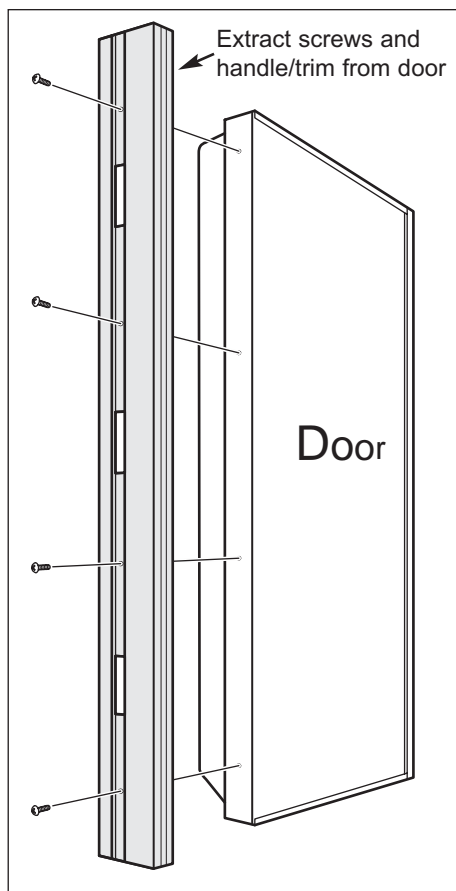

Figure 2-12. Handle/Trim Removal
2. Extract mounting screws and handle/trim from door (See Figure 2-12).